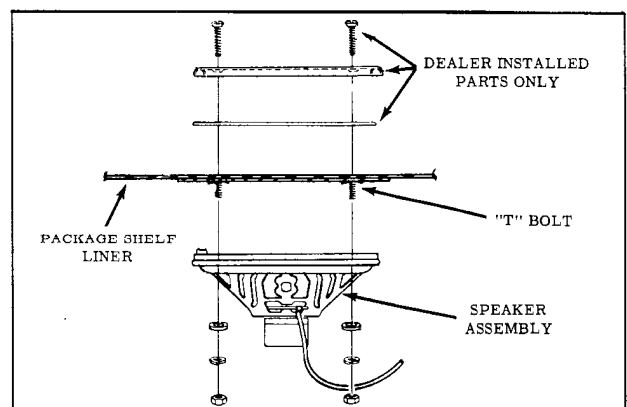

Fig. 15-16 Rear Seat Speaker (All Except 35, 45 & 67)
2. Remove four mounting nuts, lock washers, and flat washers, while supporting speaker to prevent it from dropping. (Fig. 15-16)